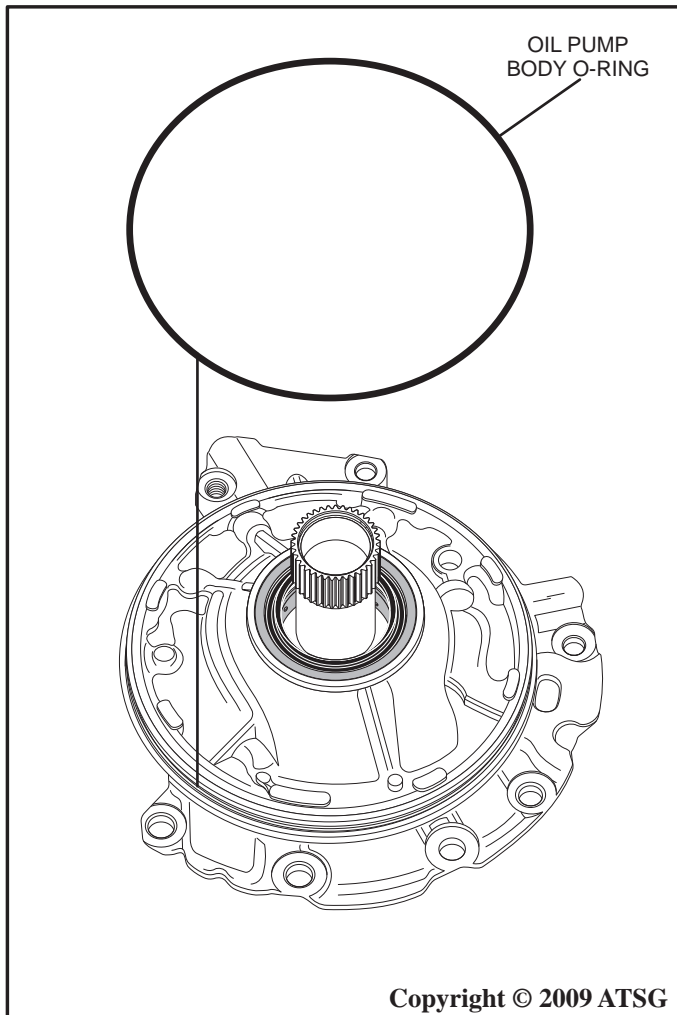

Figure 92
16. Install a new oil pump body o-ring onto the oil pump assembly and coat with a small amount of Trans-Jel® as shown in Figure 92.